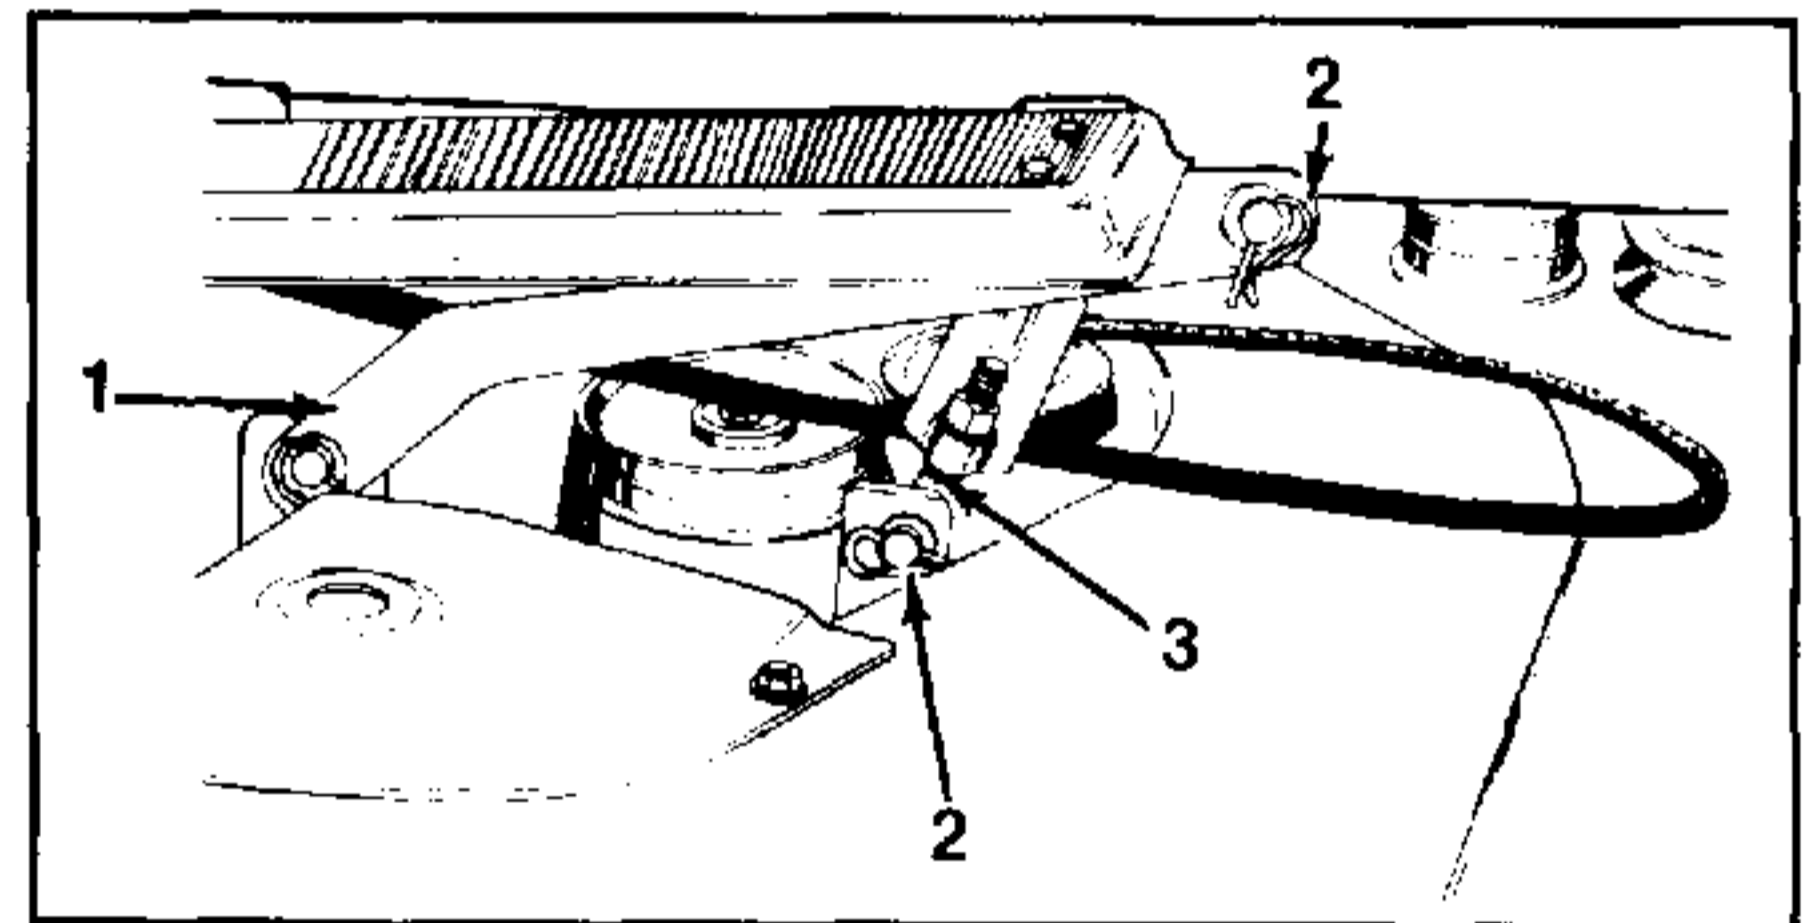

FIGURE 16. Right Side of Deck
2. Attach deck hangers and adjustable lift links using hairpin cotters and flat washers as shown in figures 16 and 17.